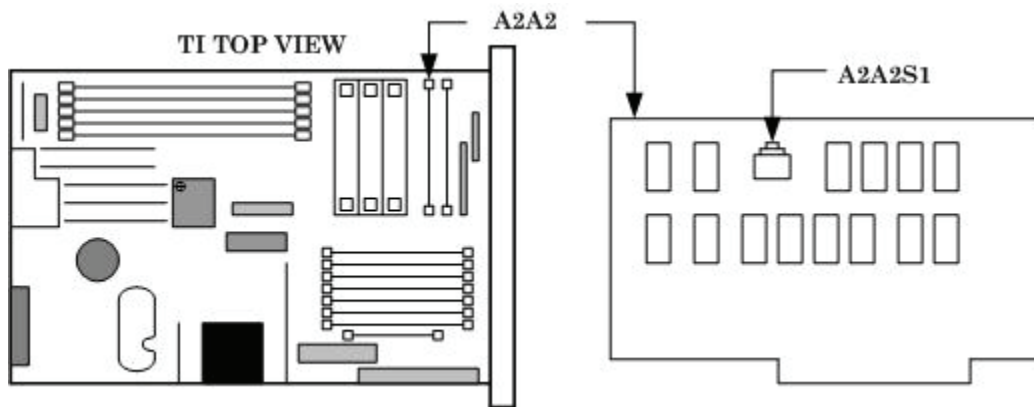

Figure 4. A2A2 board.
- (1) Remove TI protective covers.
- (2) Press TI **FREQUENCY, 2 ,GHz** keys and adjust the output level to **-3 dB**.
- (3) Set the measuring receiver to measure tuned power at 2 GHz in a **LOG** mode.
- (4) Press number **6** pushbutton on the TI.
- (5) Press service switch A2A2S1 (fig. 4.).
(25) Press service switch A2A2S1 (fig. 4).
(26) Reduce TI RF output level to minimum.
(27) Replace TI top cover.